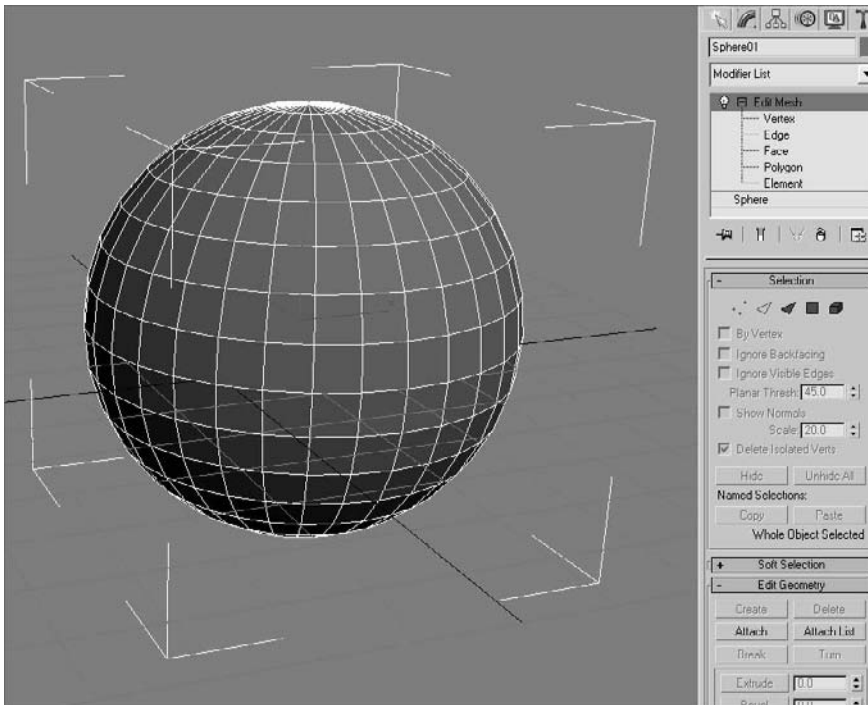

Figure 4.5
4. The Modifier Stack will display a heading called Edit Mesh. Highlight Edit Mesh in the Modifier Stack. You should see something like what is shown in Figure 4.5.